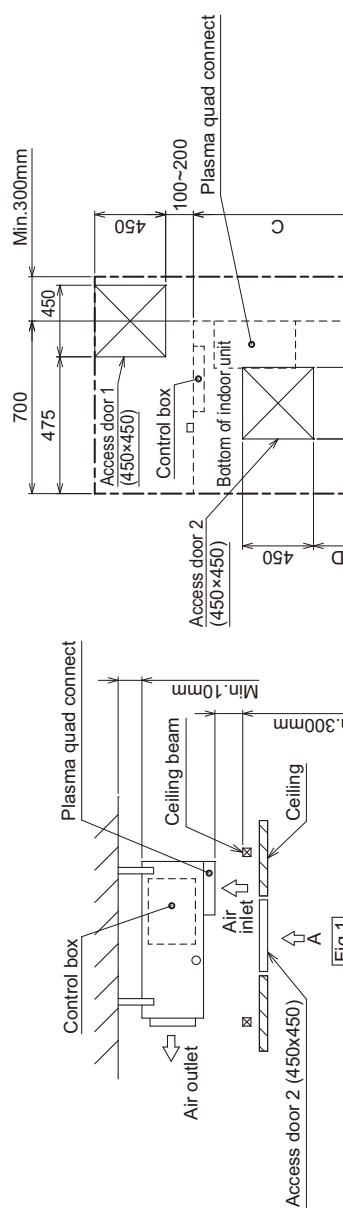

Fig.2 (Viewed from the direction of the arrow A)
• Create access door 1 and 2 (450x450mm each) as shown in Fig.2.